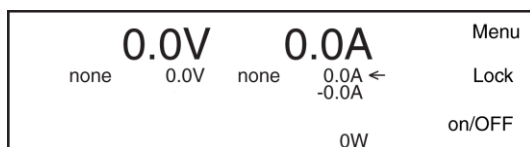

Figure 8.7: At the right side of the display, the 3 main menu items can be chosen.
- After switching on the unit, the right side of the display shows the texts 'Menu', 'Lock' and 'on/OFF', see Figure 8.7: At the right side of the display, the 3 main menu items can be chosen. Press the upper push button right from the text 'Menu' to enter the menu of the unit.